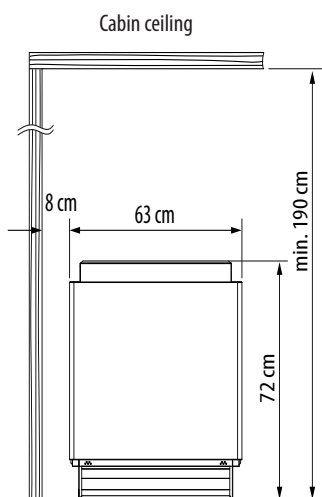

Fig. 1
- The minimum height of the sauna should be **1.90 m** on the inside (Fig. 1)